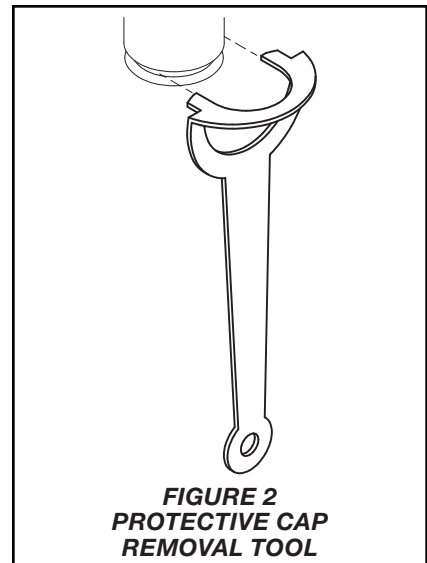

FIGURE 2
Step 6. After the ceiling has been completed with the 50 mm diameter clearance hole, use the Protective Cap Removal Tool (Ref. Figure 2) to remove the Protective Cap and then push on the Escutcheon until its flange just comes in contact with the ceiling. Do not continue to push the Escutcheon such that it lifts a ceiling panel out of its normal position. If the Escutcheon cannot be engaged with the Sprinkler, or the Escutcheon cannot be engaged sufficiently to contact the ceiling, relocate the sprinkler fitting as necessary.